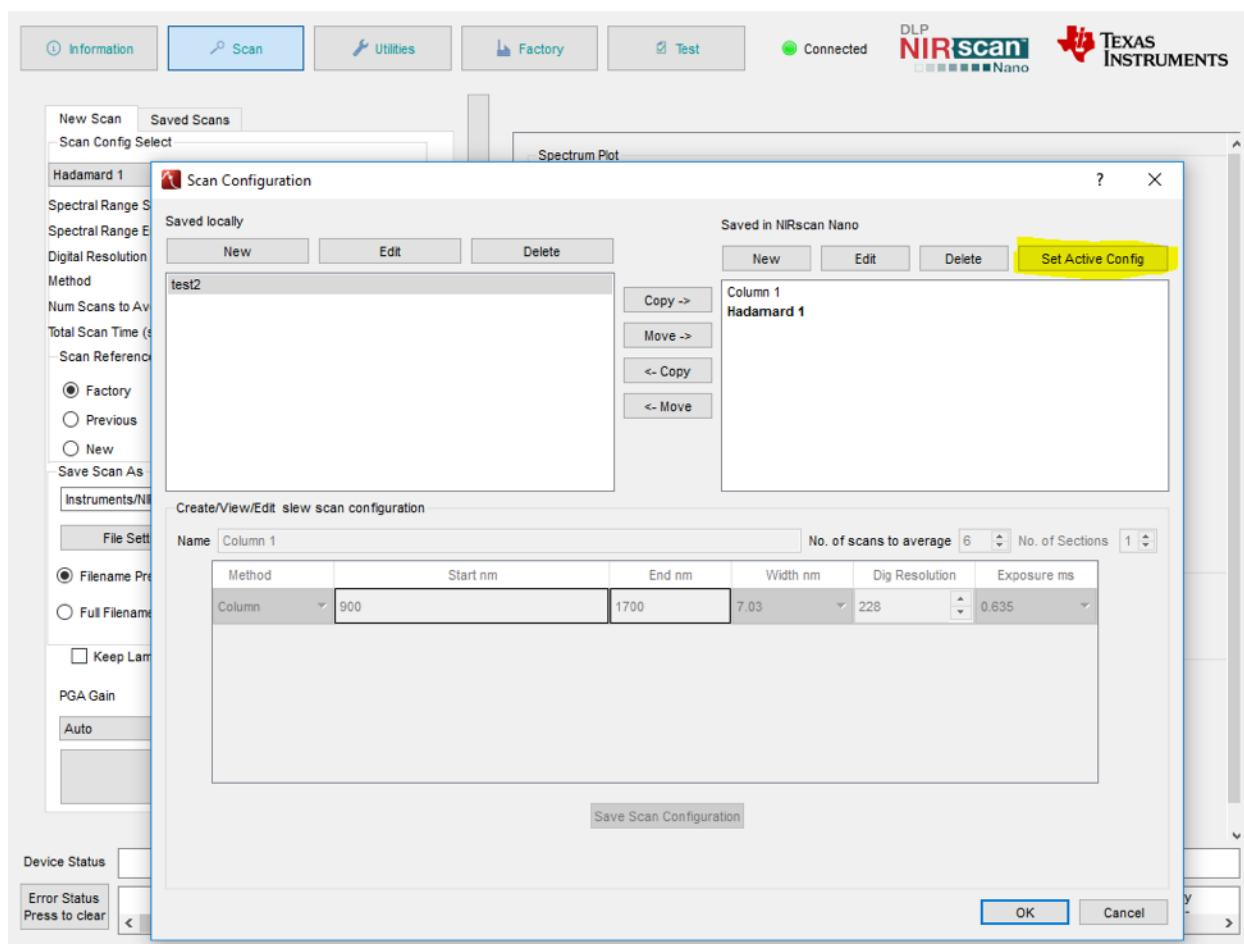

Figure K-1. Setting Active Scan Configuration in NIRscan Nano EVM
- **Invalid Scan Configuration Set as Active in EEPROM:** During power up initialization, the application software in Tiva, reads the EEPROM to find the active scan configuration set by the user. To set an active configuration with GUI, select one scan configuration that is stored in the NIRscan Nano and click the "Set Active Config" button in the Scan Configuration dialog window as shown in Figure K-1. If the active scan configuration has been corrupted or saved with invalid values in any of the entries, this can cause the Tiva firmware to hang on startup while applying the invalid scan configuration. If the Tiva firmware hangs, the Tiva may not respond to any USB commands. To recover from this situation, the user must instruct the Tiva application software to avoid applying the invalid active scan configuration from EEPROM. This is accomplished by placing a file named "SKIP_CFG" in the micro SD card under the folder with the NIRscan Nano EVM serial number. After successfully booting, connect the GUI and correct the invalid scan configuration. Then delete the "SKIP_CFG" file from the microSD card.